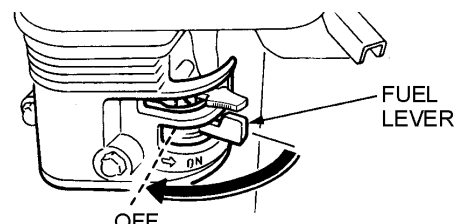

Figure 26. Fuel Valve Lever (Off Position)
4. Place the fuel valve lever (Figure 26) to the **OFF** position.